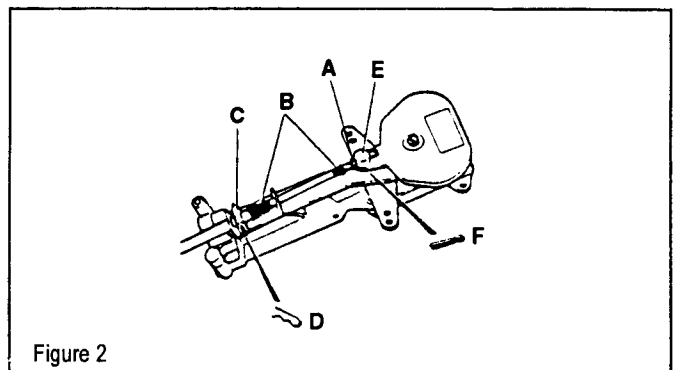
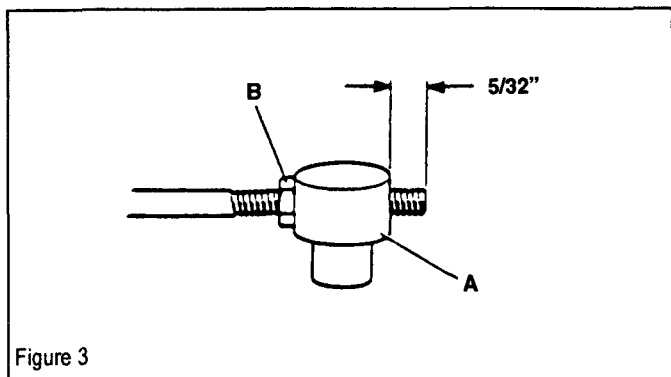

Figure 2
Figure 3
1. Remove the nut (figure 2 item A) and both rubber seals (figure 2 item B). Push the throttle cable through the retainer (figure 2 item C). Apply a light, even coating of a marine-grade grease to the terminal. Refit both rubber seals and nut.
2. Secure the cable with the hitch pin (figure 2 item D). Note that the hitch pin must be fitted with the flat side upwards.
3. Thread the pivot (figure 3, item A) onto the cable terminal until the threaded portion of the terminal protrudes 5/32" (5 threads). Use the large thread diameter pivot with cables having a 1/4" diameter terminal only (CC419XX) and the small thread diameter pivot(s) with cables having a 3/16" diameter only (CC172XX or CC199XX). Secure the pivot by tightening the nut (figure 3 item B). Connect the pivot to the throttle lever (figure 2 item E) and secure it with a cotter pin (figure 2 item F).
2. Thread the pivot (figure 3 item A) onto the cable terminal until the threaded portion of the terminal protrudes 5/32" (5 threads). Secure the pivot by tightening the nut (figure 3 item B).
\*See Figure 3 Item A